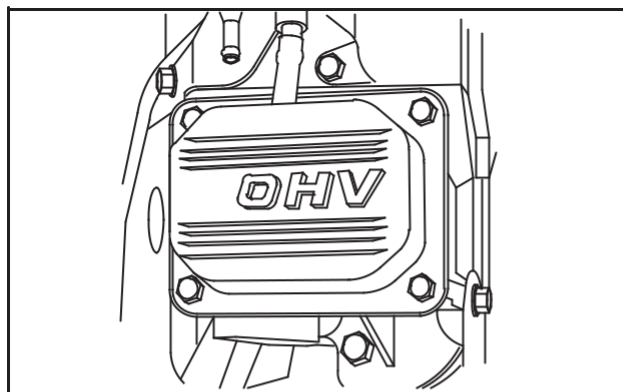

Fig. 26 – Install Valve Covers
3. Install valve covers with new gaskets, Fig. 26.